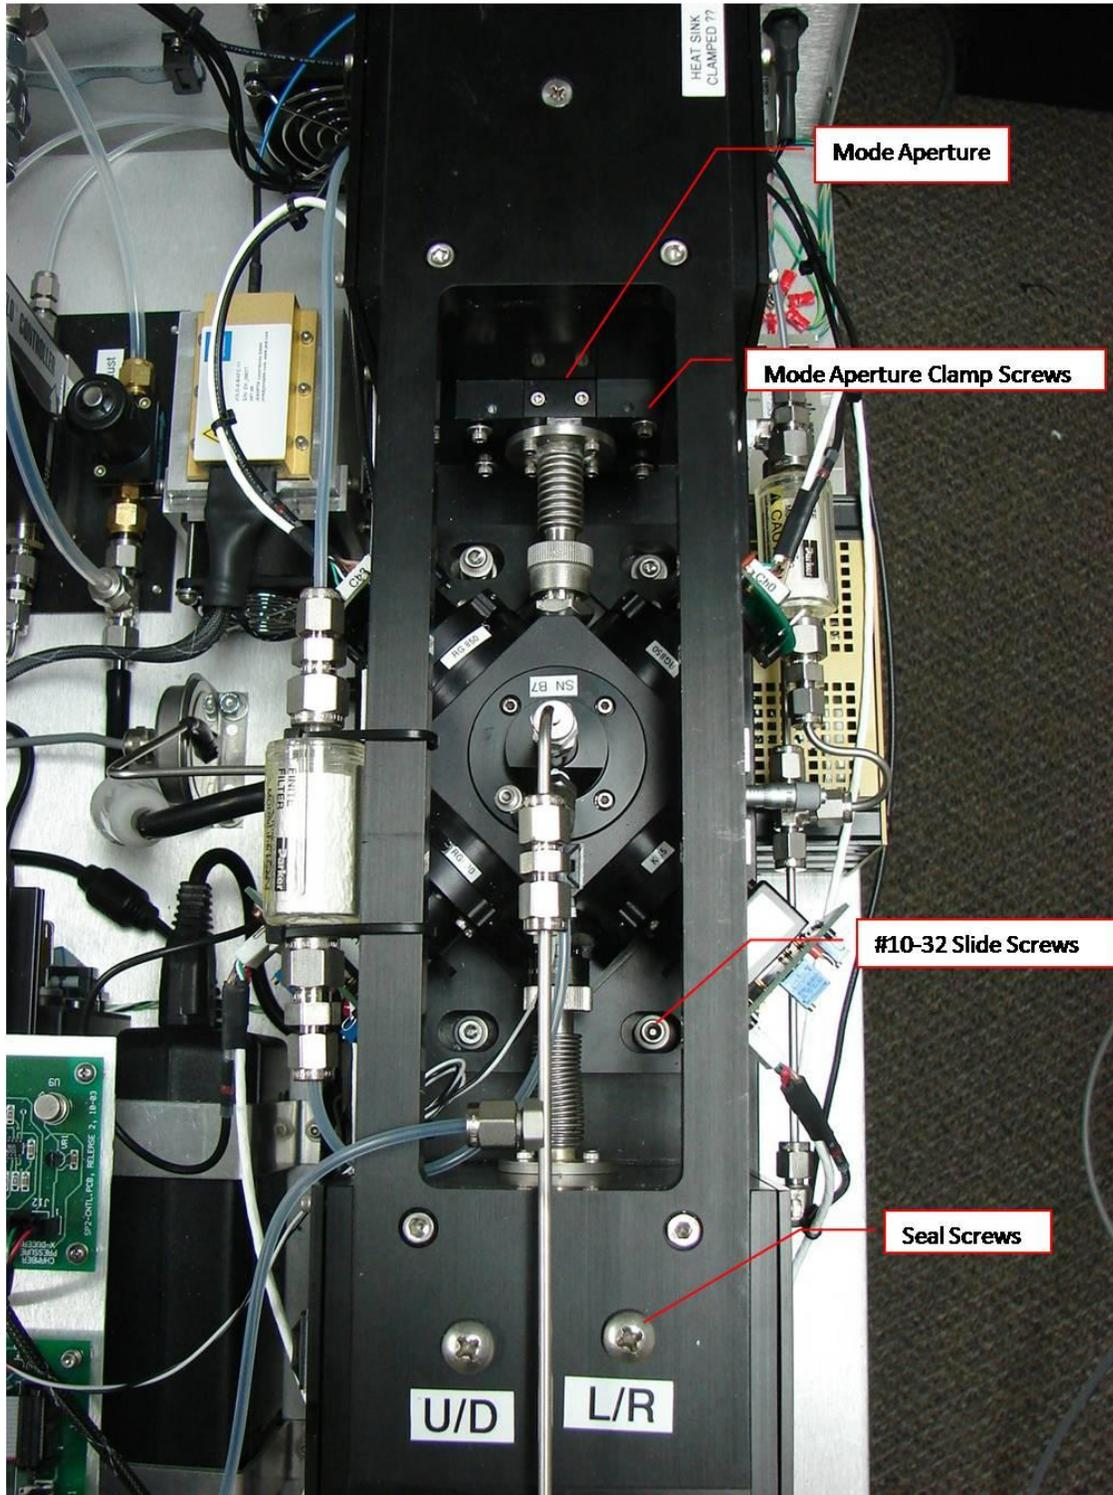

Figure 3: SP2 Spectrometer Head
Noteworthy components of the SP2 spectrometer head are identified in Figure 3.
- 3.22. If the right side panel has not been removed from the SP2 chassis, remove it at this time. Loosen the four holding screws in the mode aperture block very slightly. The block should move when moderate side force is applied, but be not so loose that the O-ring behind the block is not in good contact with the YAG crystal chamber. See Figure 3.
- 3.26. After adjusting the position of the coupler, or other optical components, the beam position is likely to have been moved slightly. The sample jet must be aligned to the new beam position to ensure that detection peaks from scattering particles have a Gaussian shape. Loosen the two 10-32 slide screws (Figure 3) that hold the chamber slide plate to the base of the YAG laser frame, by approximately one half turn. Record the position of the micrometer head that moves the chamber slide plate, and